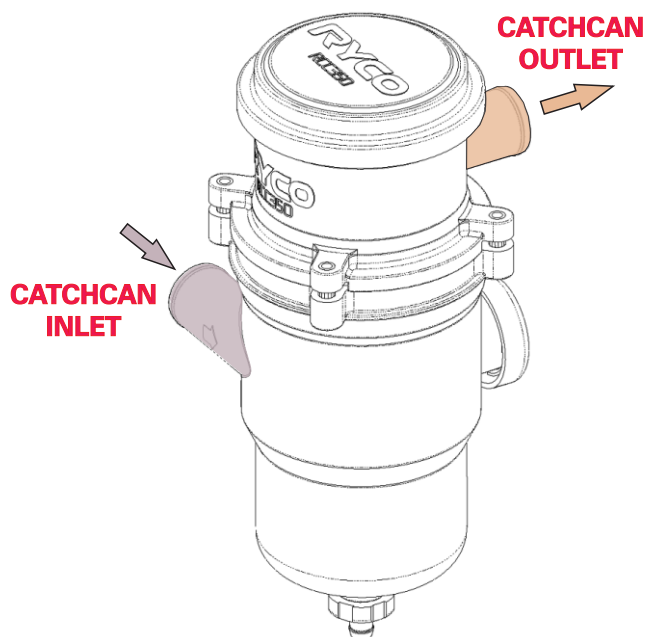

FIG. 7 PREPARING CATCHCAN BEFORE INSTALLATION
2. Before mounting the catchcan, loosen the four (4) retaining screws of RCC350, rotate the head 90 degrees to ensure the catchcan upper port (outlet) is facing the windscreen and the lower port (inlet) is facing towards the engine. See Fig. 7 below.